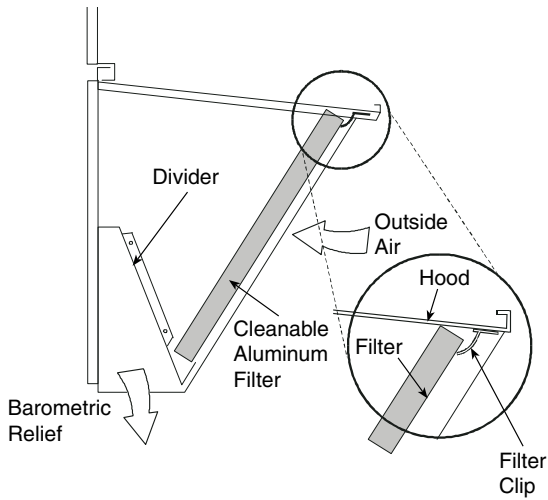

Fig. 13 — Economizer Filter Installation
5. Open the filter clips located underneath the hood top. Insert the aluminum filter into the bottom filter rack (hood divider). Push the filter into position past the open filter clips. Close the filter clips to lock the filter into place. (See Fig. 13.)